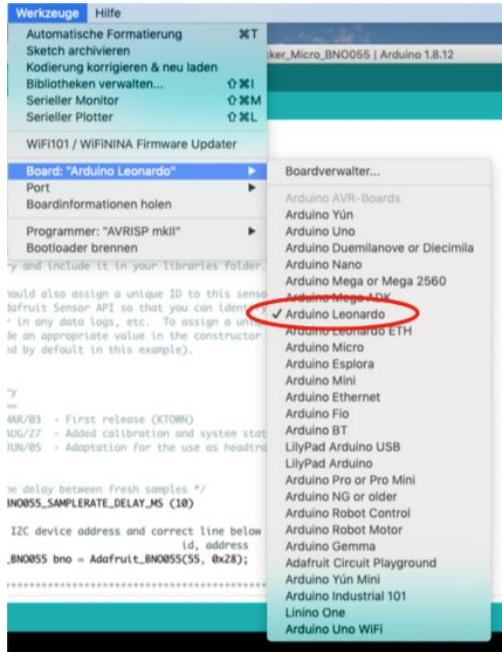

Figure 18: Port “(Arduino Leonardo)”
**Step 7.3:** To program the Arduino Pro Micro, choose the Board “Arduino Leonardo” (*Figure 18*) in the tools section.